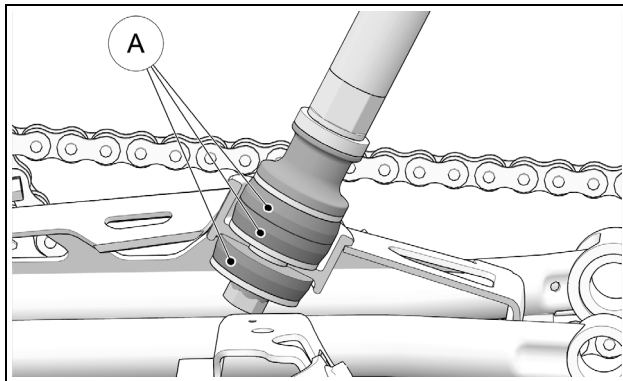

Figure 32
Inspect the Rubber Dampers (A) mounted on strut rod. Replace them if they show cracks or are excessively worn or deformed. Figure 32.